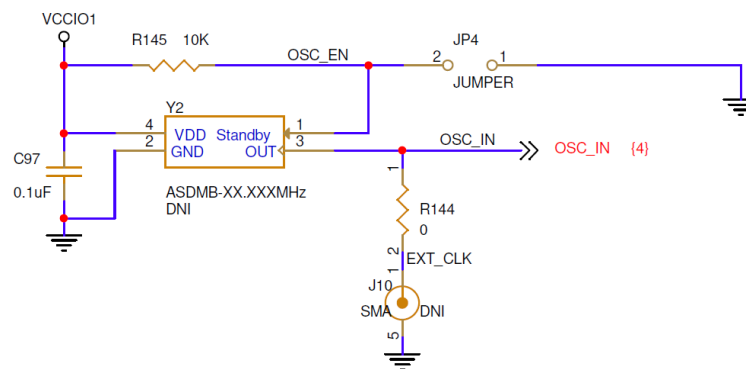

Figure 4.1. Optional Clock Circuit Design
- The board provides optional clock inputs for the MachXO4 device from either the oscillator footprint (Y2) or the SMA header (J10), as shown in Figure 4.1. Both are DNI (unpopulated).